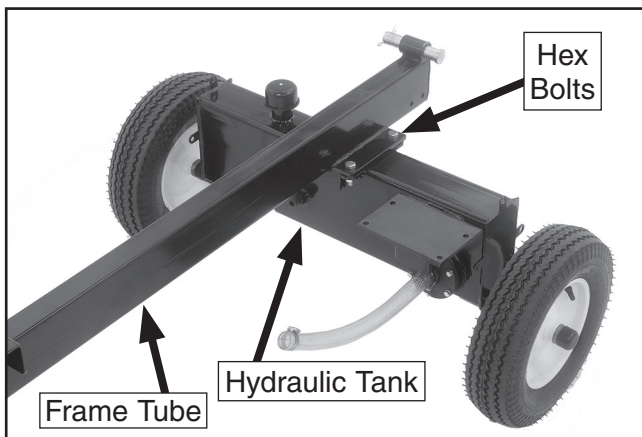

Figure 5. Frame tube and tank.
4. Place the frame tube onto the hydraulic tank and secure it together with four M12-1.75 x 40 hex bolts, four flat washers, and the lock nuts as shown in **Figure 5**.